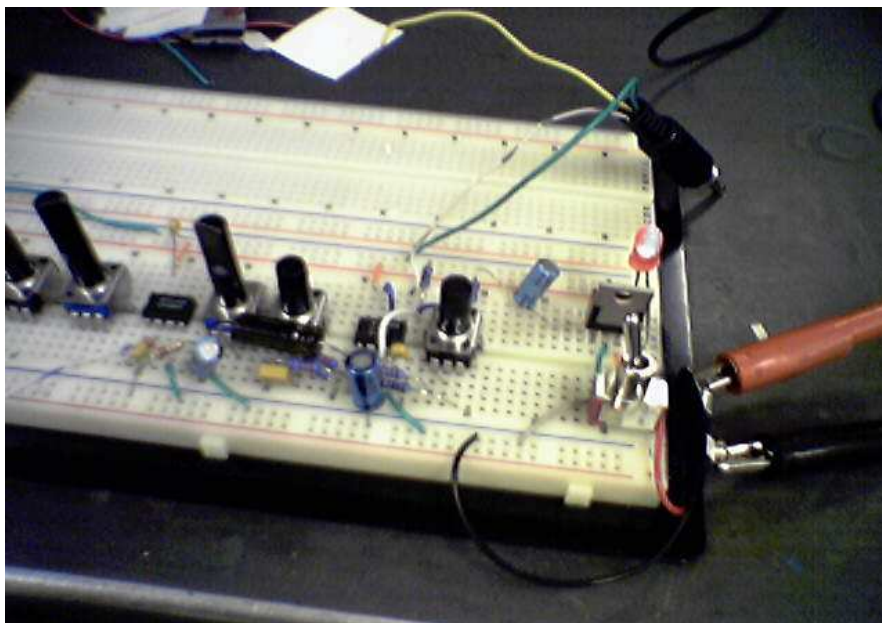

Figure 1. One half (right speaker) of my tone controller circuit
3. **WORD OF ADVICE: BUILD CLEAN, NEAT CIRCUITS.** Use the shortest wire possible, use the power rails on your board instead of stringing 12 V and ground everywhere, and be methodical when you wire so that you (and your GSI) can make sense of it. For instance, use red for power, black for ground and blue for signal. Figure 1 shows one half of my tone controller. Notice how all the wires are almost parallel to the breadboard. Also notice how I have added user interface elements– the switch and LED.